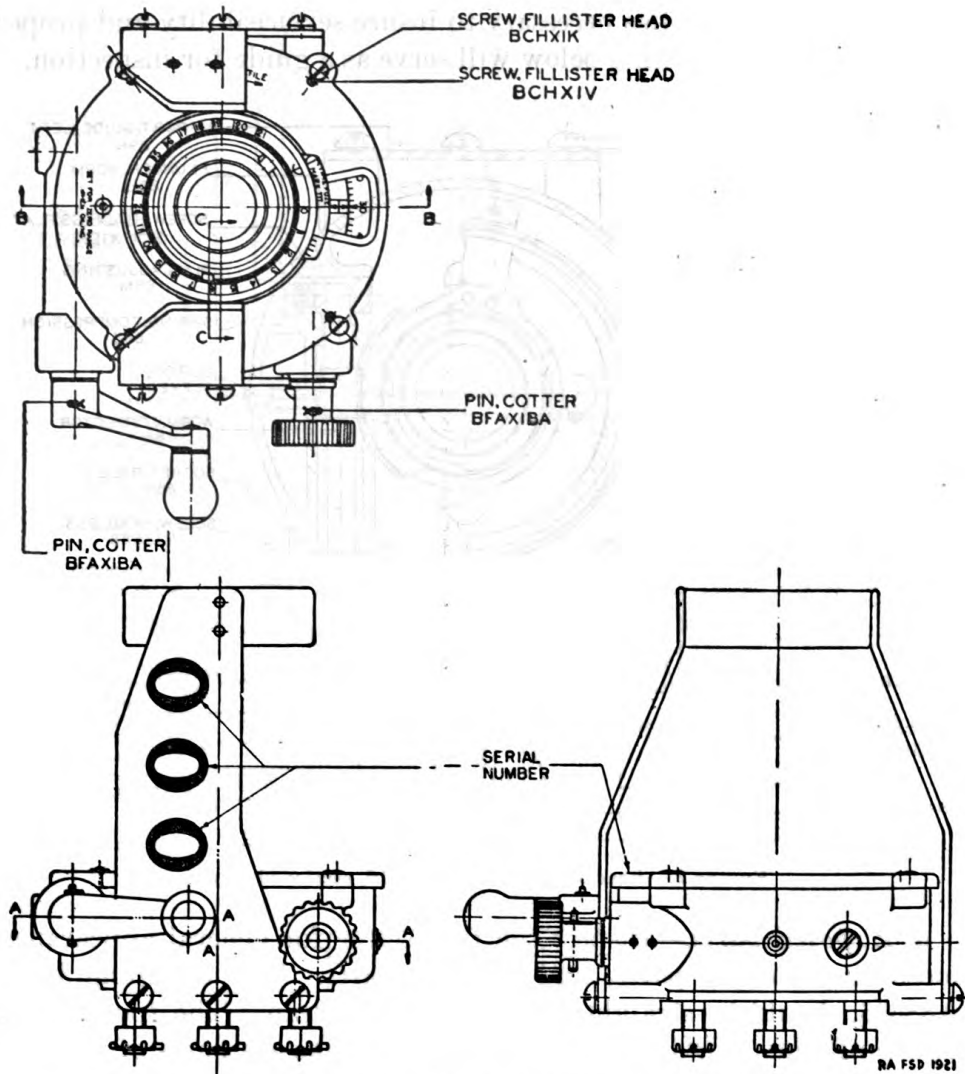

FIGURE 1.—Bracket fuze setter, M1916, assembled views.
6. Identification.—*a.* Assembled and sectioned views of the bracket fuze setter, M1916, are shown in figures 1, 2, and 3.